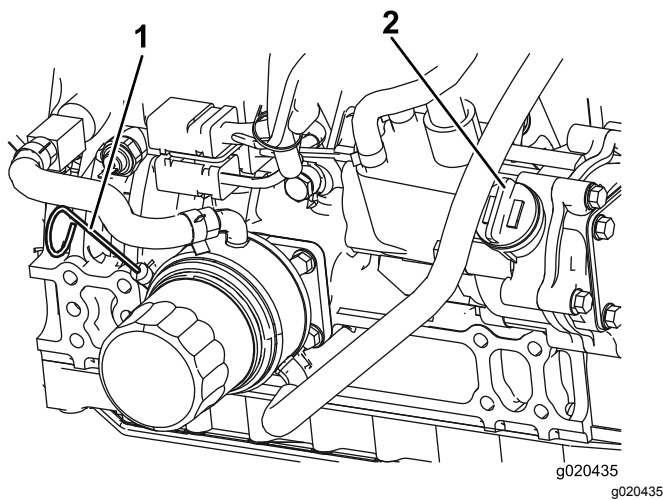

Figure 74
3. Remove the dipstick, wipe it clean, install the dipstick into the tube, and pull it out again. The oil level should be up to the Full mark (Figure 74).
4. If the oil is below the Full mark, remove the fill cap (Figure 74) and add oil until the level reaches the Full mark. **Do not overfill.**